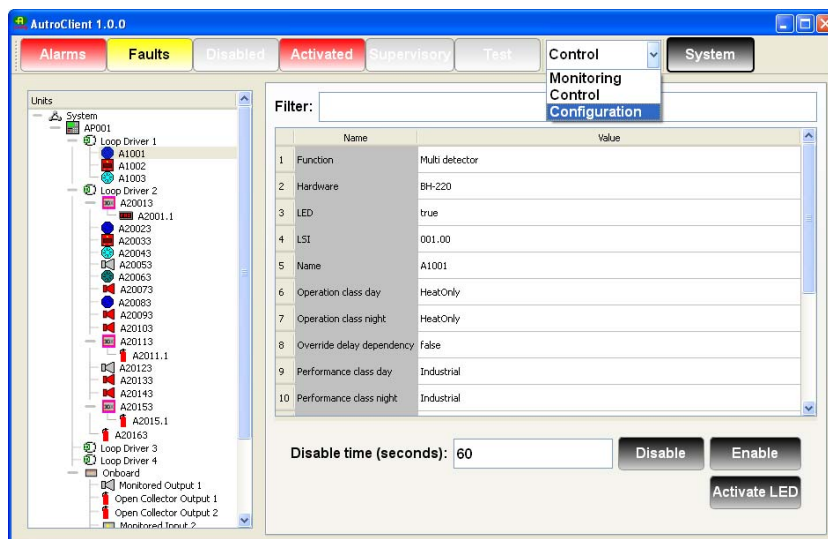

Figure 10. Set the AutoClient in Configuration mode.
- To set the AutoClient in configuration mode, select the ComboBox Configuration option in the AutoClient toolbar as shown in figure 10.